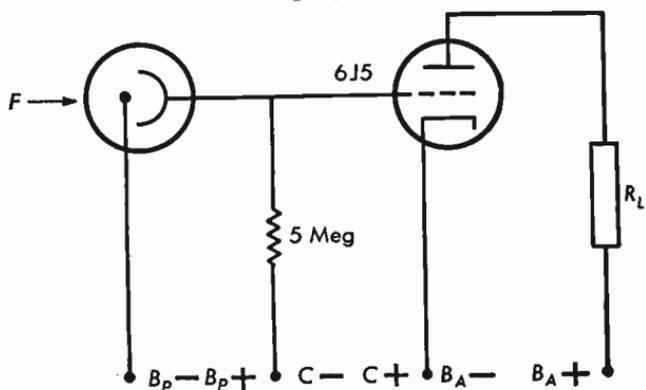

Fig. 13.14a Phototube with amplifier.
13.14 In the phototube circuit of Figure 13.14a, $F = 0.2$ lumen, $R_g = 5$ megohms, the sensitivity of the type 929 phototube is 45 microamperes per lumen. The amplification factor of the type 6J5 is 20, and its plate resistance is 7000 ohms. The load has a resistance of